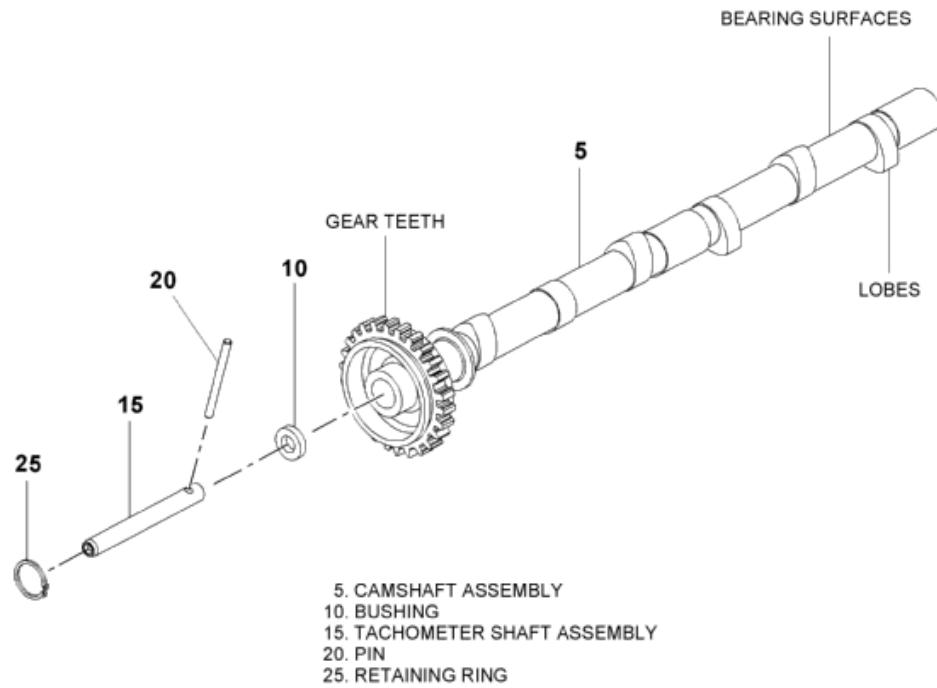

Figure 72-00-08.8 • Camshaft Assembly
- Check connecting rod parallelism. Refer to Fits and Clearances. Refer to Figure 72-00-08.13
- Check connecting rod squareness. Refer to Fits and Clearances. Refer to Figure 72-00-08.15.